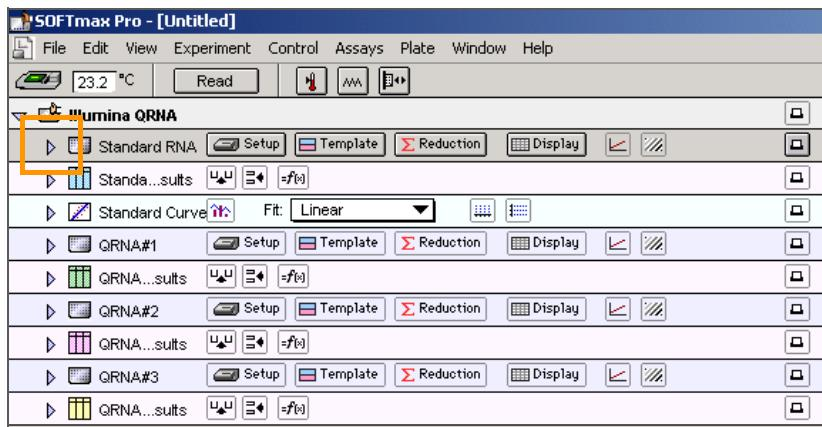

Figure 85 Select Lambda Standards Screen
6. Click the blue arrow next to **Lambda Standard** (Figure 85).